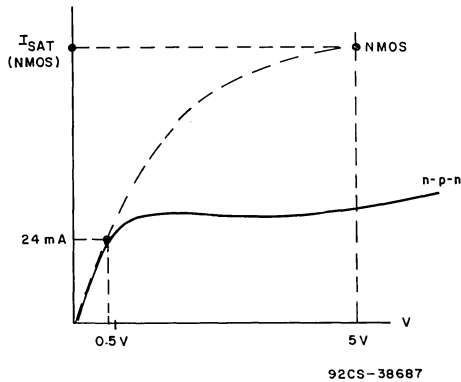

Fig. 7 - Comparison of I_{SAT} in an n-p-n transistor and an NMOS transistor.
2. A CMOS output sink current of 24 milliamperes at 0.5 volt will give rise to an objectionably high transient current when switching, and will produce EMI which is objectionably large, much larger than the LSTTL output with the same current/voltage level. Fig. 7 shows the much higher I_{SAT} in an NMOS output sink transistor versus an n-p-n output sink transistor. I_{SAT} is twice as large, as are dv/dt and EMI, in CMOS as in LSTTL devices.